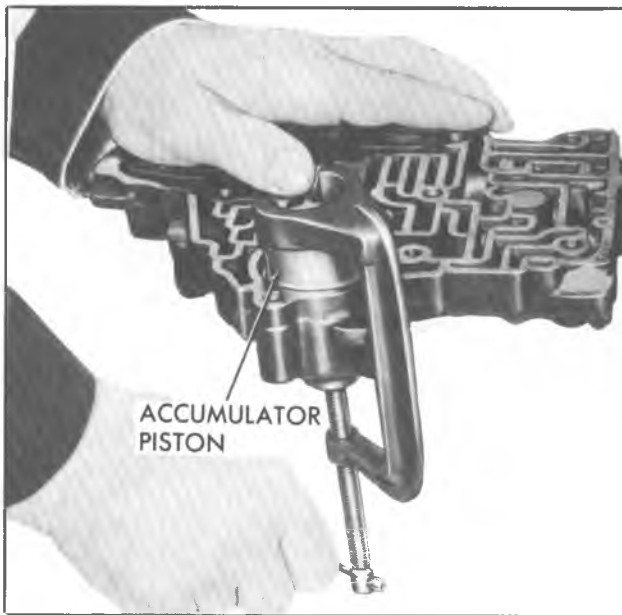

Fig. 8B--Installing Compressor Tool to Front Accumulator Piston
3. Install Special Tools J-22269 and J-24675, on accumulator piston and remove retaining ring (fig. 8B).